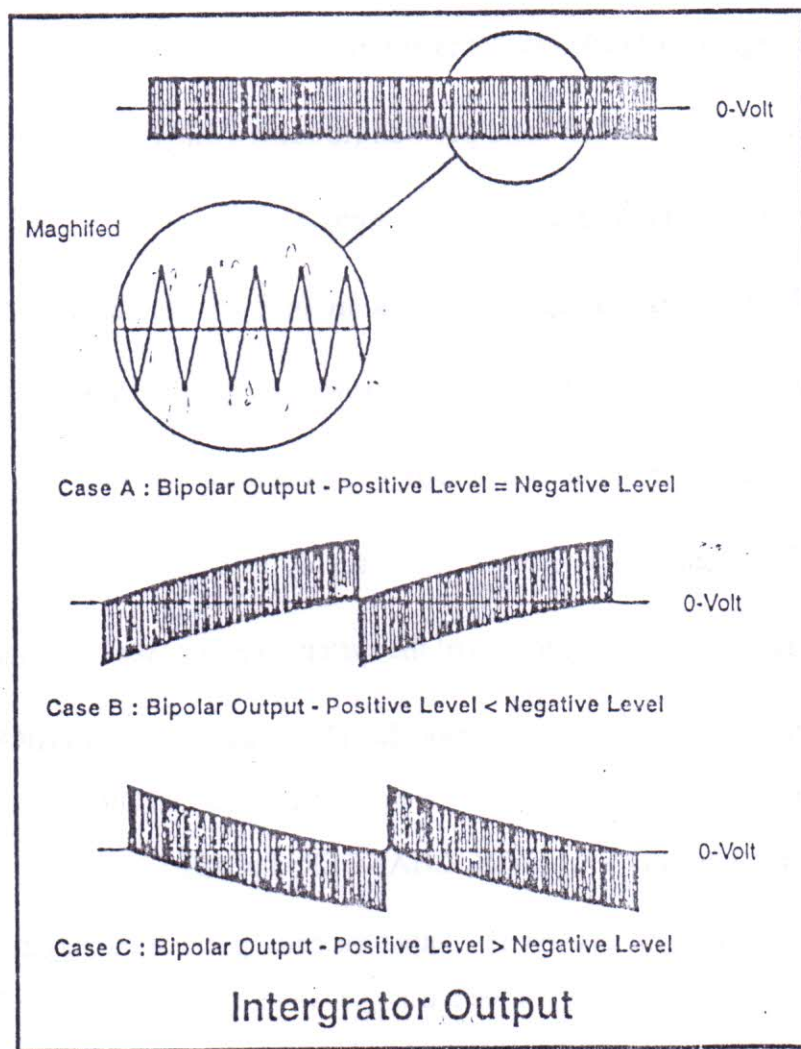

Fig 5
If the Transmitter's LEVEL CHANGER output has equal positive and negative output levels, INTEGRATOR's output will be a triangle wave centred around '0' Volts, as shown in Fig. 5. (Case A). However, if the level changer's negative level is greater than the positive level, the integrator's output will appear as shown in fig 5 (Case B). Should the level changer's positive output level be the greater of the two levels, the integrator's output will resemble that shown in Fig. 5 (Case C).
Prove that you can obtain all the three waveforms shown in fig. 5 by turning the potentiometer from one extreme to another. Try explaining the reason behind it.
- (9) Adjust the transmitter's LEVEL CHANGER preset until the output of INTEGRATOR 1 (t.p. 17) is a triangle wave centred around 0 Volts, as shown in fig. 5 (Case A). The peak-to-peak amplitude of the triangle wave at the integrator's output should be 0.5V (approx), this amplitude is known as the **integrator STEP SIZE**.